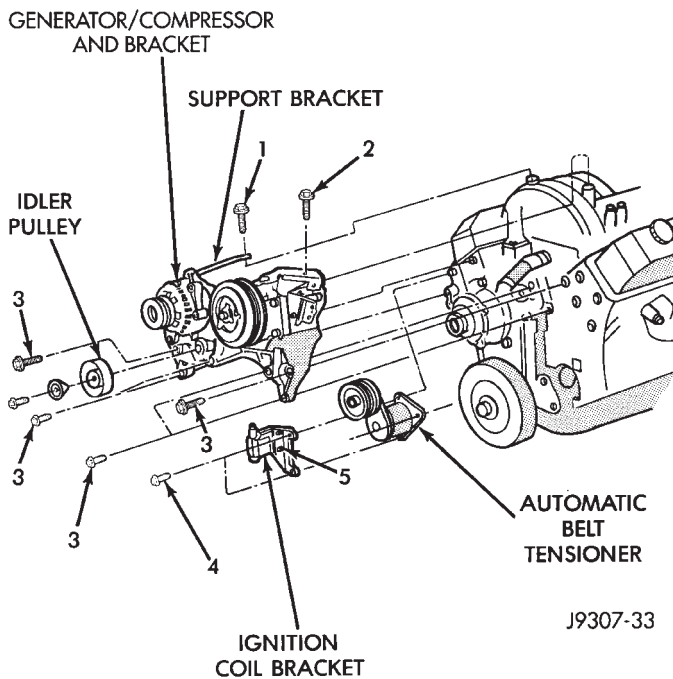

Fig. 27 Generator Support Bracket—5.2L Engine
(1) Disconnect negative battery cable at battery.
(2) Drain cooling system until coolant level is below thermostat. Refer to Draining Cooling System in this group.
(3) Air Conditioned vehicles: Remove support bracket (generator mounting bracket-to-intake manifold) located near rear of generator (Fig. 27).
(4) On Air Conditioning equipped vehicles, the generator must be partially removed.
(b) Install support bracket (generator mounting bracket-to-intake manifold) (Fig. 27). Tighten bolts to 54 N•m (40 ft. lbs.) torque.